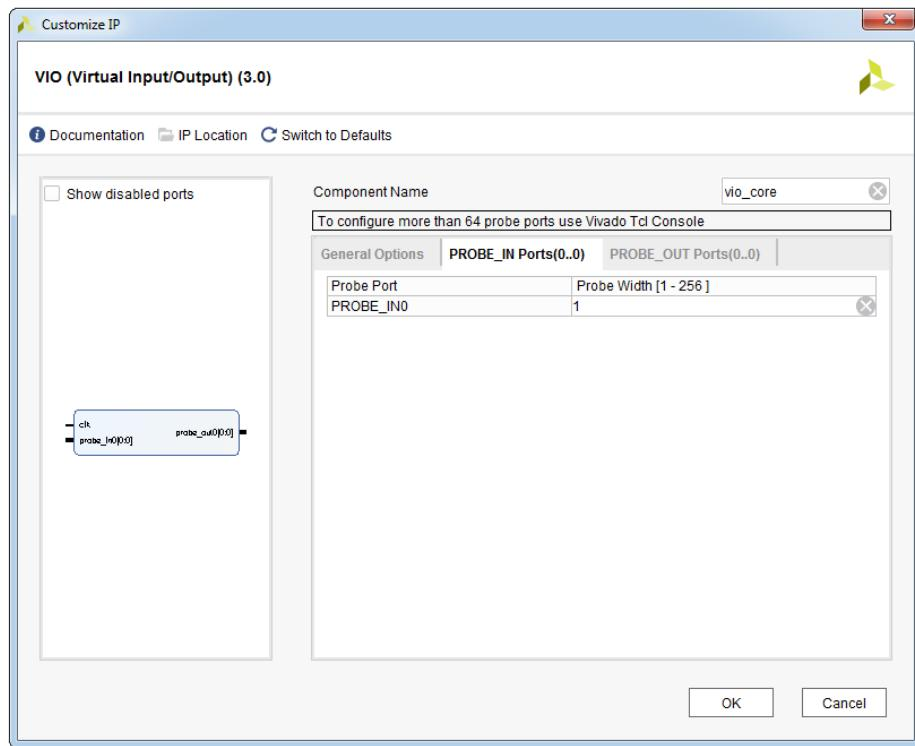

Figure 11.5: VIO core configuration window - PROBE_IN Ports(0..0) tab
6. In the **PROBE_IN Ports(0..0)** tab leave Probe Width of the **PROBE_IN0** Probe Port to be **1**, because our *pwm_out* signal is **1 bit** signal, see Figure 11.5.